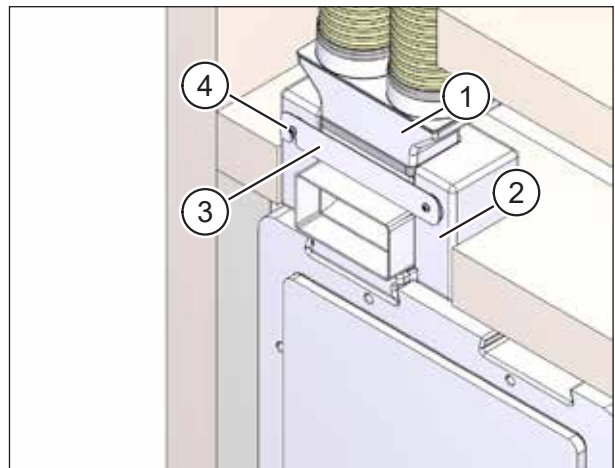

Fig. 31: Inserting flexible pipe connectors
- ▶ Insert the assembled flexible pipe connectors (item 1 in Fig. 31) into the ductwork connection adapter (item 2 in Fig. 31).
- ▶ Push the bar catch (item 3 in Fig. 31) down and carefully tighten the cross-head screws (item 4 in Fig. 31).